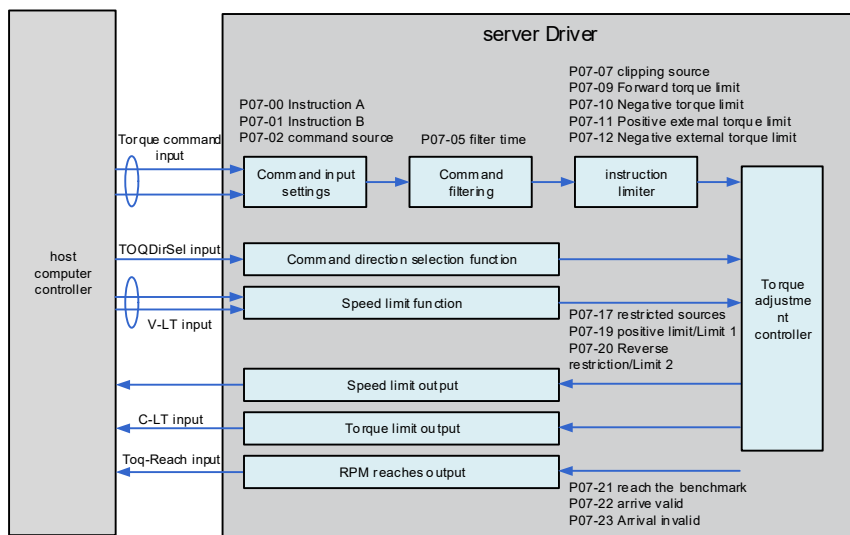

Figure 4-10 Torque Control Mode Block Diagram
3) Refer to Figure 4-10 for wiring instructions to connect the necessary DI/DO and torque command source, speed limit and other signals in the CN1 terminal.